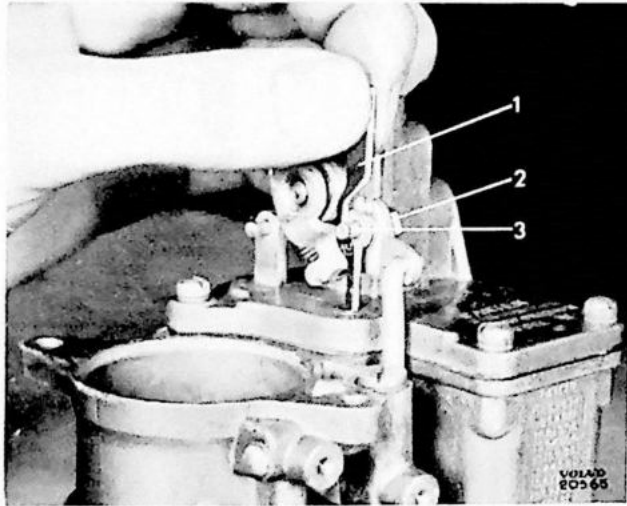

Fig. 92.
Place gauge T 109—26 as shown by Fig. 92. With the throttle closed, loosen nut (2) on rod holder (3), and place holder in recess in gauge (1). Tighten nut and install metering rod, taking care that it is correctly placed in the jet.